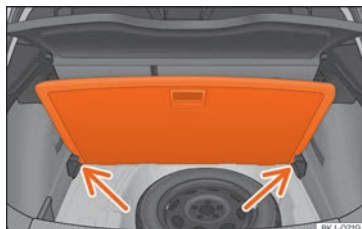

Fig. 167 Variable boot floor: tilted position.
- Lift the variable floor in the high position using handle ①, pull it up and push it towards the backrest of the rear seats until the floor folds along the hinge line and the movable part of the floor is resting on itself.
- Rest the floor on its housings »» Fig. 167 (arrows).